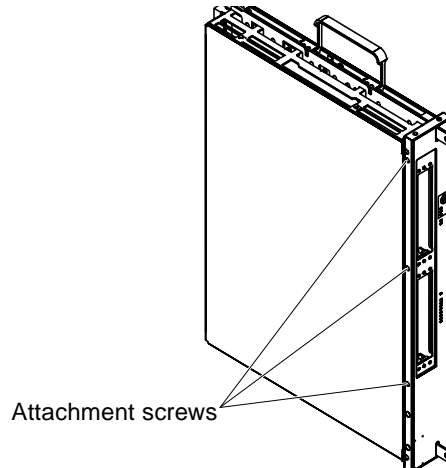

FIGURE 2-8 Removing the Face Plate
a. Remove the attachment screws that secure the PCI personality plate (FIGURE 2-8).
Compress the personality plate against the EMI gasket to align the screw holes. Sustain this force to relieve the stress on the screws threads and remove the three attachment screws as noted in FIGURE 2-8.